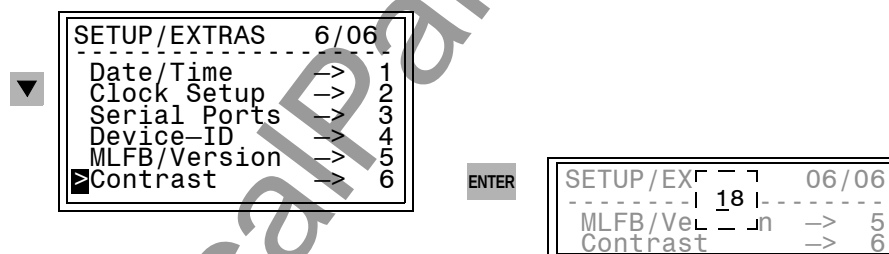

Figure 3-3 Operating sub-menu for adjusting the display contrast
- ❑ Using the **▼** key, select the menu item **Setup/Extras** and switch to the selection **SETUP/EXTRAS** using the **►** key. See Figure 3-3.